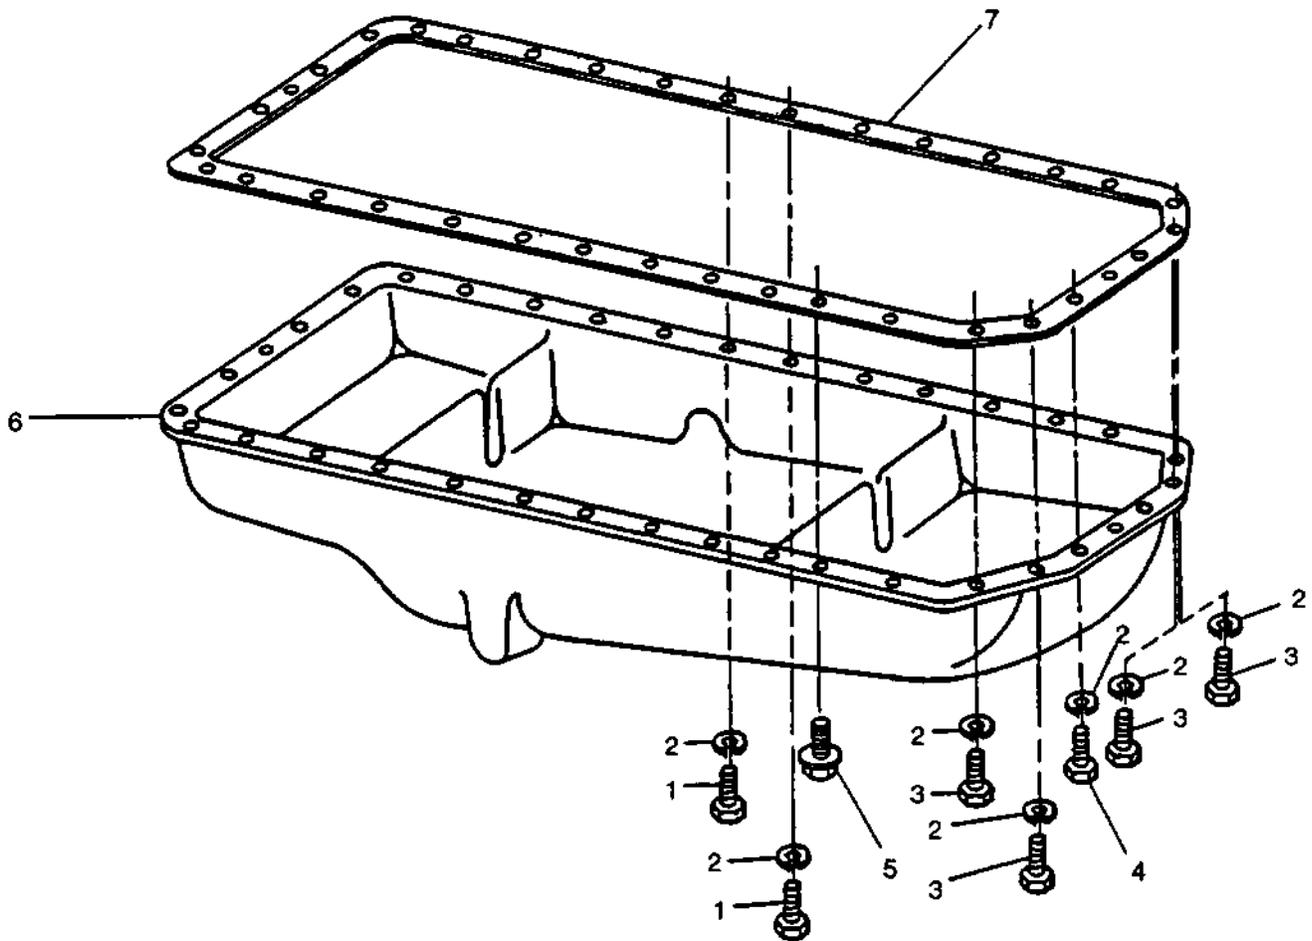

FIGURE 3-52. Oil Pan
- b. Support oil pan and remove two bolts (1, FIGURE 3-52), four bolts (3), two bolts (4), eight lockwashers (2), and twenty-eight flanged head bolts (5), securing oil pan (6) to engine block. Remove oil pan (6) and gasket (7); discard gasket (7).
- b. Place new gasket (7, FIGURE 3-52) and oil pan (6) on engine block and secure with two bolts (1), four bolts (3), two bolts (4), eight new lockwashers (2), and twenty-eight flanged head bolts (5). Install the eight longer bolts (1, 3 and 4) in locations noted during removal.
- a. Remove four bolts (4, FIGURE 3-52), two capscrews (3), and six lockwashers (2) from front of oil pan.
- c. Install four bolts (4, FIGURE 3-52), two capscrews (3), and six new lockwashers (2) in front oil pan. Tighten oil pan-to-timing cover capscrews to 27 ft-lbs (37 Nm). Tighten others to 35 ft-lbs (47 Nm).